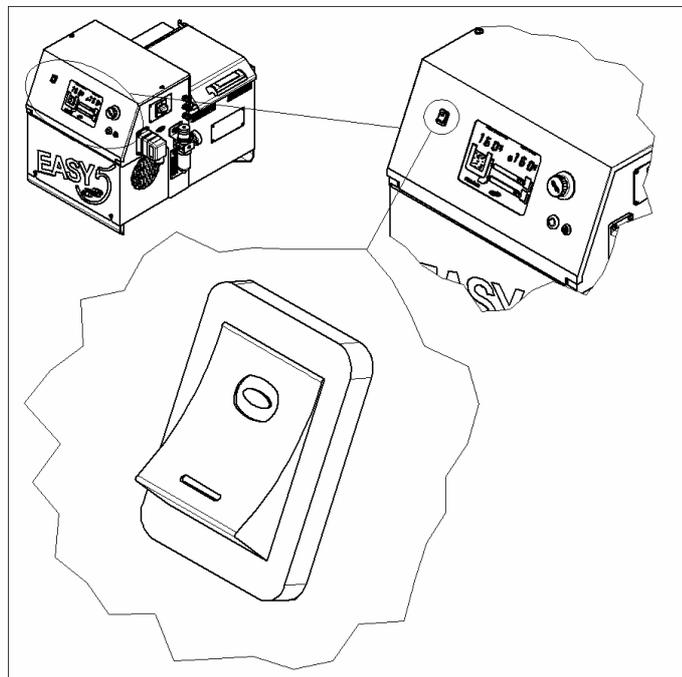

Figure 23
- Switch off the motor by turning the switch to position 0 as illustrated in figure 23.